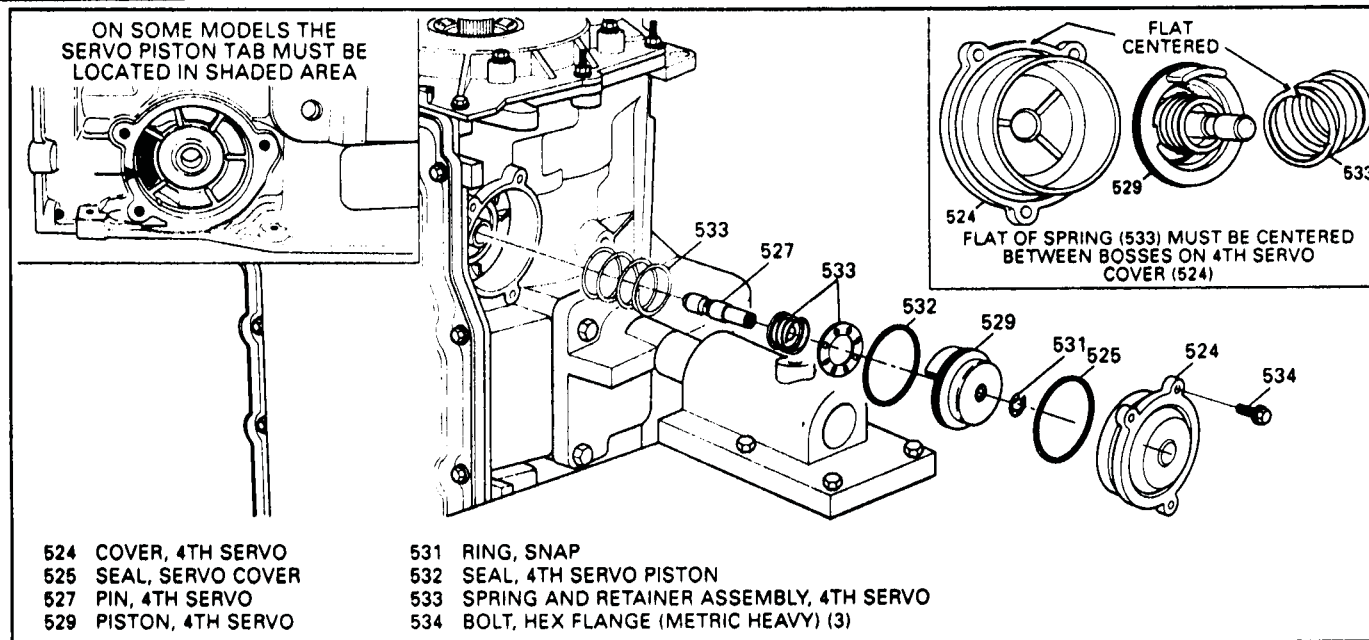

Figure 115
1. Install new seals onto the 4th servo piston and servo cover as shown in Figure 115, and lubricate with small amount of TransJel.
2. Assemble 4th servo assembly using Figure 115 as a guide.
3. Install 4th servo piston assembly in servo cover with return spring (See Figure 115).
4. Install 4th servo assembly into case bore. Make sure the tab on the piston is lined up with the notch in the case bore (EARLY MODELS ONLY). Refer to Figure 115.